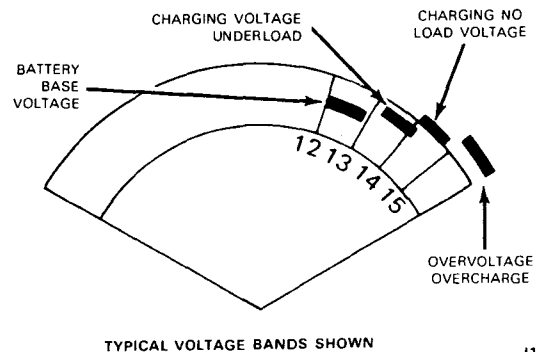

FIG. 9 Voltmeter Test Scale
2. Record the battery voltage reading shown on the voltmeter scale (Fig. 9).
6. Increase the engine speed to 2000 RPM. The voltmeter should indicate a minimum of 0.5 volt above the first recorded battery voltage (Fig. 9).